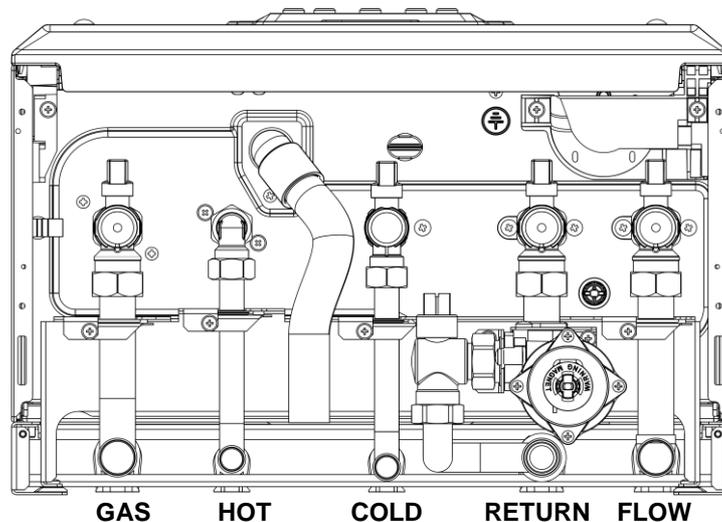

Fig.3
b. Pipework Connections To Jig- See Fig. 3